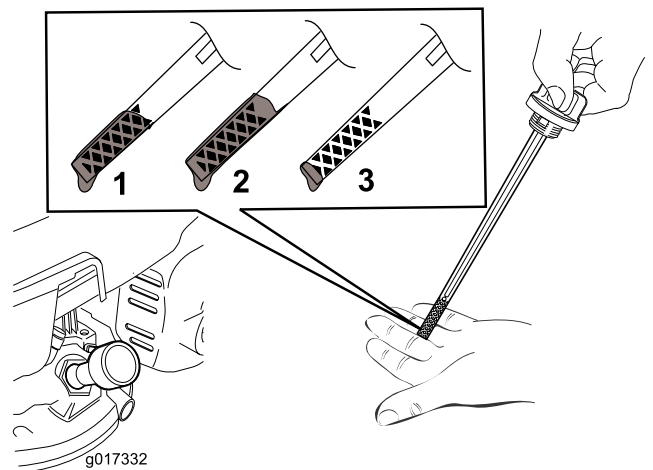

Figure 12
5. To determine the proper oil level on the dipstick, refer to Figure 12).
Note: Fill the engine crankcase with oil until the dipstick indicates that the engine oil level is correct as shown in Figure 12. If you overfill the engine with oil, remove the excess oil as directed in Changing the Engine Oil.